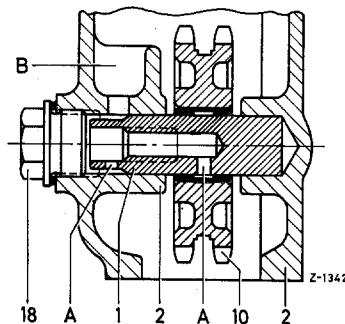

Figure 05-25/2
sprocket (10) and use a suitable arbor to knock in the pivot pin (1), observing not to damage the internal thread (see Figure 05-25/1 and 05-25/2).